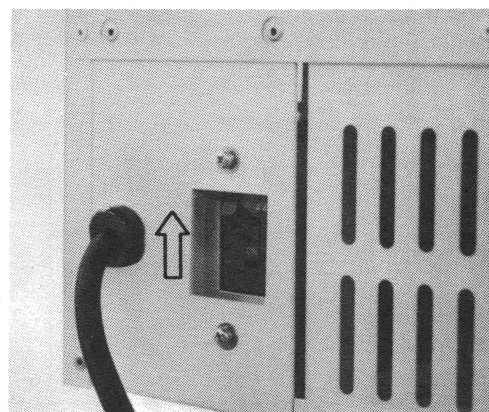

Figure 20. Circuit Breaker Switch.
- Switch rear panel circuit breaker "ON" (Figure 20).